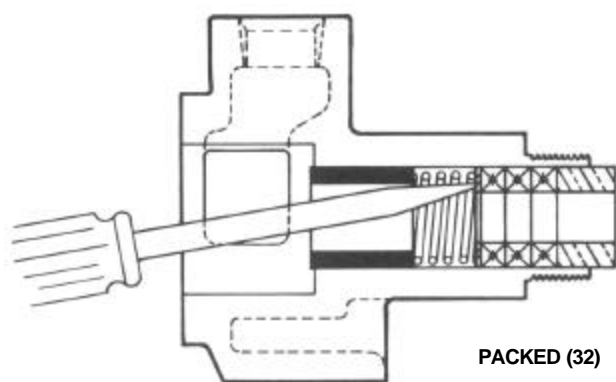

FIGURE 3
5. The pump is now ready for removal of packing or mechanical seal. Refer to Figure 3 or 5 for example. It is recommended a new mechanical seal or packing be used every time a pump is completely disassembled.